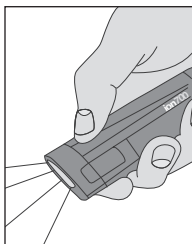

FIGURE 1.1.2
2. Quick-press the power button on the light to turn it on (Figure 1.1.2), then quick-press to turn it off again.